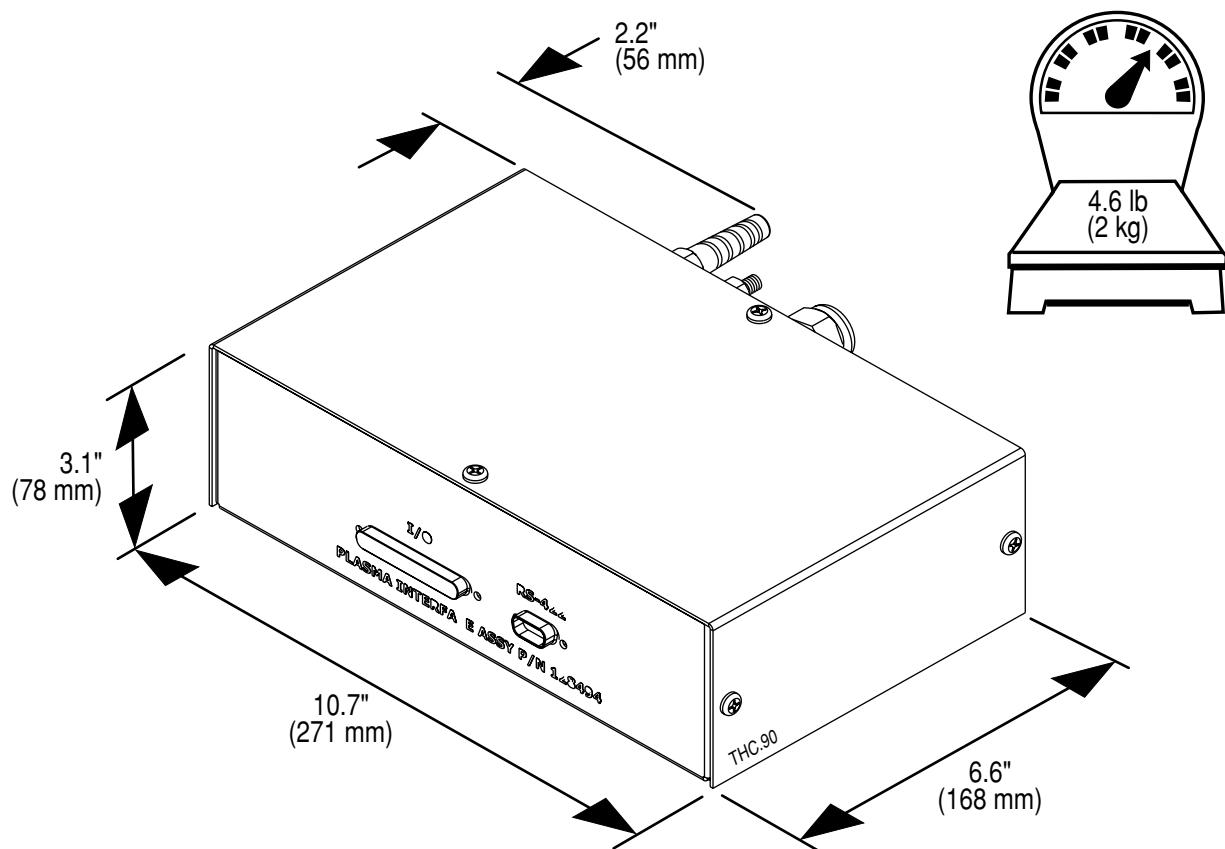

Figure 2-3 Plasma interface assembly
- **Plasma interface assembly with voltage divider** (Figure 2-3) The plasma interface houses an interface PCB which provides a link between the THC control module and the plasma power supply. The voltage divider provides an isolated 41 : 1 signal which is derived from the cutting arc voltage. For example, if the arc voltage is 150 volts, the resultant 3.66-volt output signal is used to control the stand-off distance between the torch and workpiece during plasma cutting.